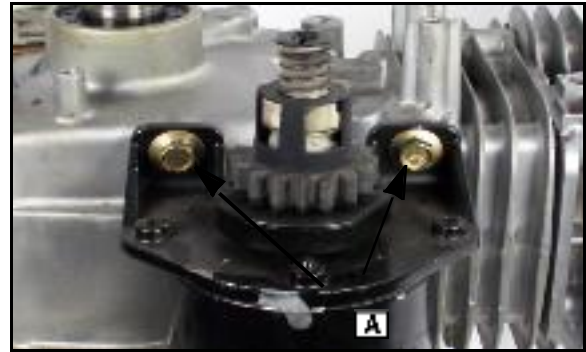

Fig. 37
1. Remove the two bolts that secure starter to cylinder ([A] Fig. 37, 38, 39).